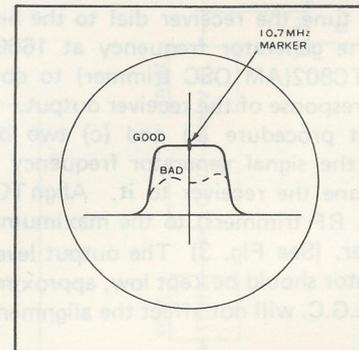

Fig. 8
- (c) The output level of the sweep generator should be controlled to make a noise (a weak input signal from the sweep generator) place on the wave form of the oscilloscope. Align T501 (IFT of FM RF circuit) to have the maximum and symmetrical shaped wave form with the oscilloscope as shown in Fig. 8.